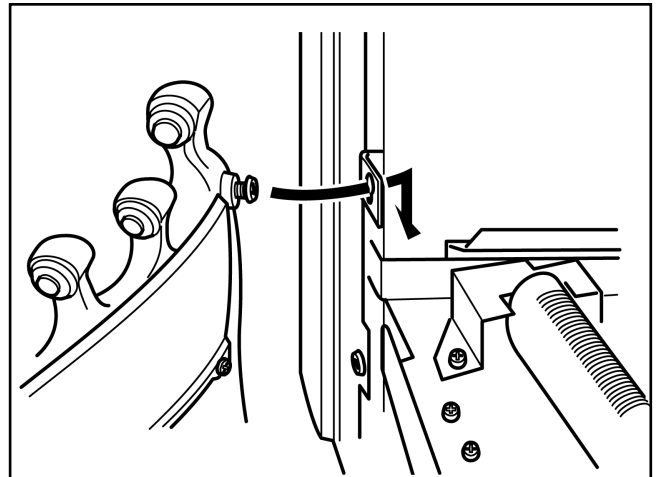

Figure 25. Firefront casting location (Shown with Alpha / Elegant casting)
1. Fit the fire front casting to the fascia. Locate the two screw heads at the rear top corners of the casting through the keyhole slots at the inner sides of the fascia. If the screw heads do not project enough or project too far, the screws can be adjusted. Lower the casting so that it rests on the hearth (See figure 25).
2. Locate the two screw heads through the keyhole slots at the inner sides of the fascia. If the screw heads do not project enough or project too far, the screws can be adjusted. Lower the casting so that it rests on the hearth (See figure 25).